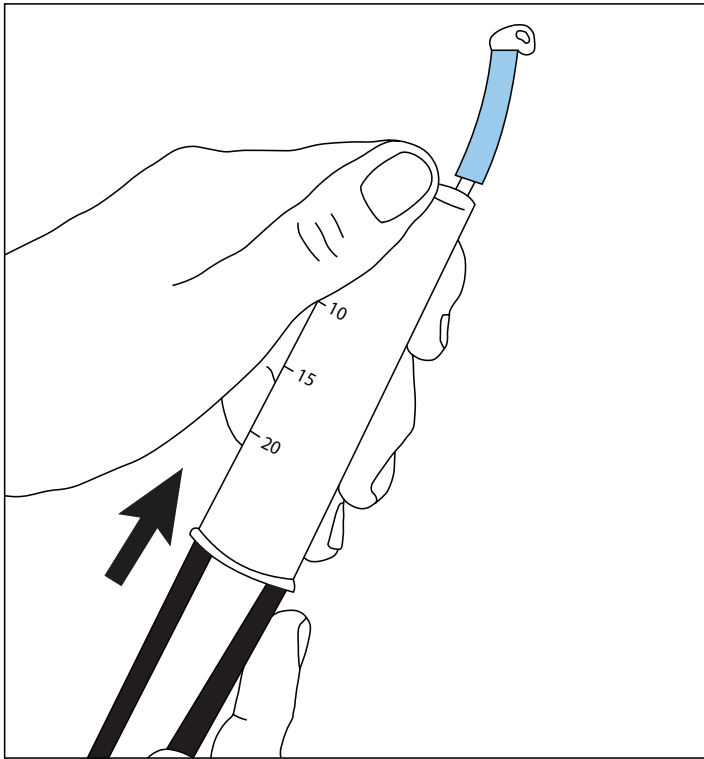

Figure 28 Fill the vacuum syringe
26. Push the blue tube piece onto the vacuum syringe and fill the tube (Figure 28).